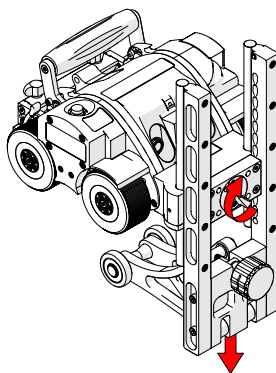

Fig. 4 - Twist to lower base
2. When required, twist the vertical release knob to lower the base, creating extra clearance for fitting onto the pipe (Fig. 4).